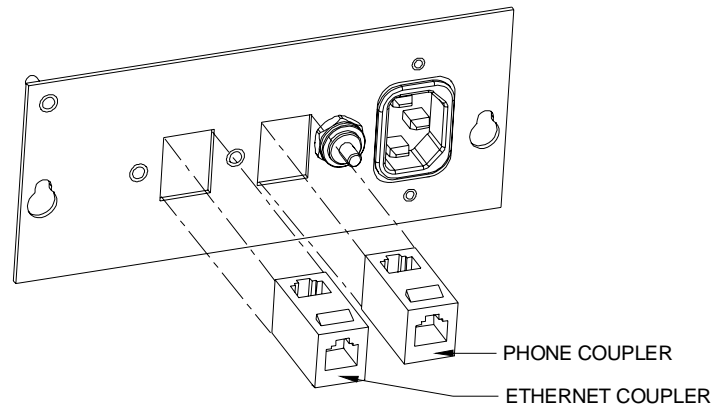

FIGURE 29 - MAXX UPRIGHT - POWER ENTRY ASSEMBLY
**B games:** Orient the supplied, snap-in Ethernet coupler and insert it into the left access hole. Then, orient the supplied, snap-in phone coupler and insert it into the right access hole. See Figure 29.